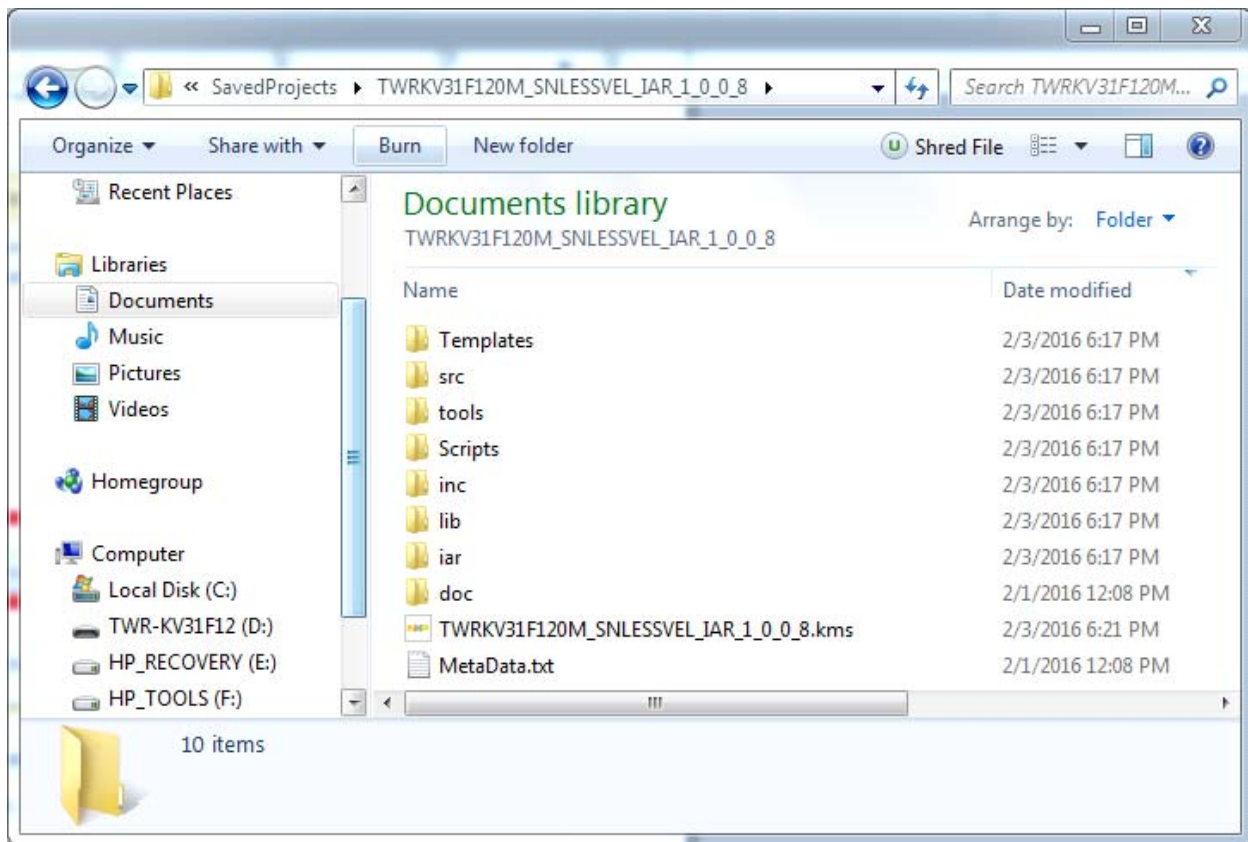

Figure 23. Example of KMS project structure
8. The result of this project creation is shown in Figure 23.